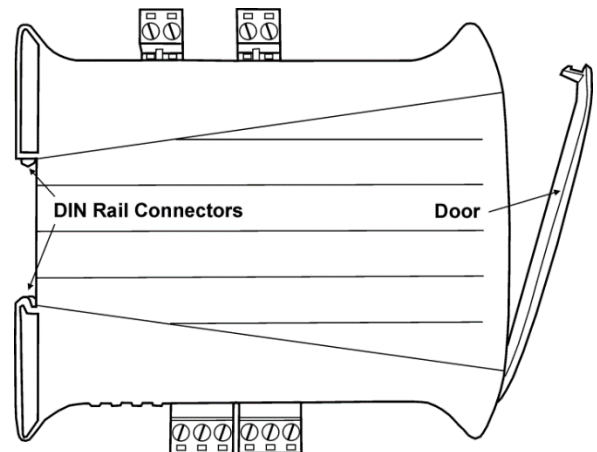

Fig 4
- ❑ The analogue address of the Module is set using the first 7 switches of the 8-bit DIL switch, which in the case of the Standard CHQ is located through the cut-out section on the top of the PCB cover. On the DIN version, this switch is located on the edge of the PCB behind the clear door (see Fig 4).